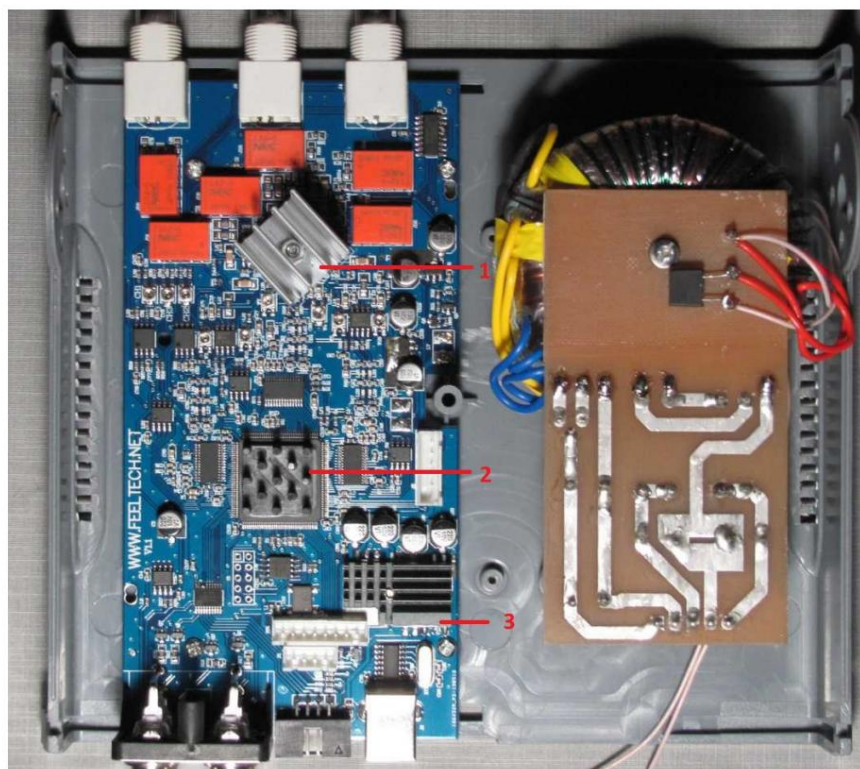

Figure 16
4. Mounting support for power transformer and rectifier unit is installed. To do this, the front and rear panels and the handle are temporarily placed, the assembled transformer with rectifiers is positioned in the housing. The transformer must not interfere with the installation of the handle and its rotation. Well the entire node should be approximately in the middle of the available space. After installing the support, you can finally fix this knot (Figure 16).
Install the board on the bottom cover. The bottom cover prepared for assembly is shown in Figure 16.